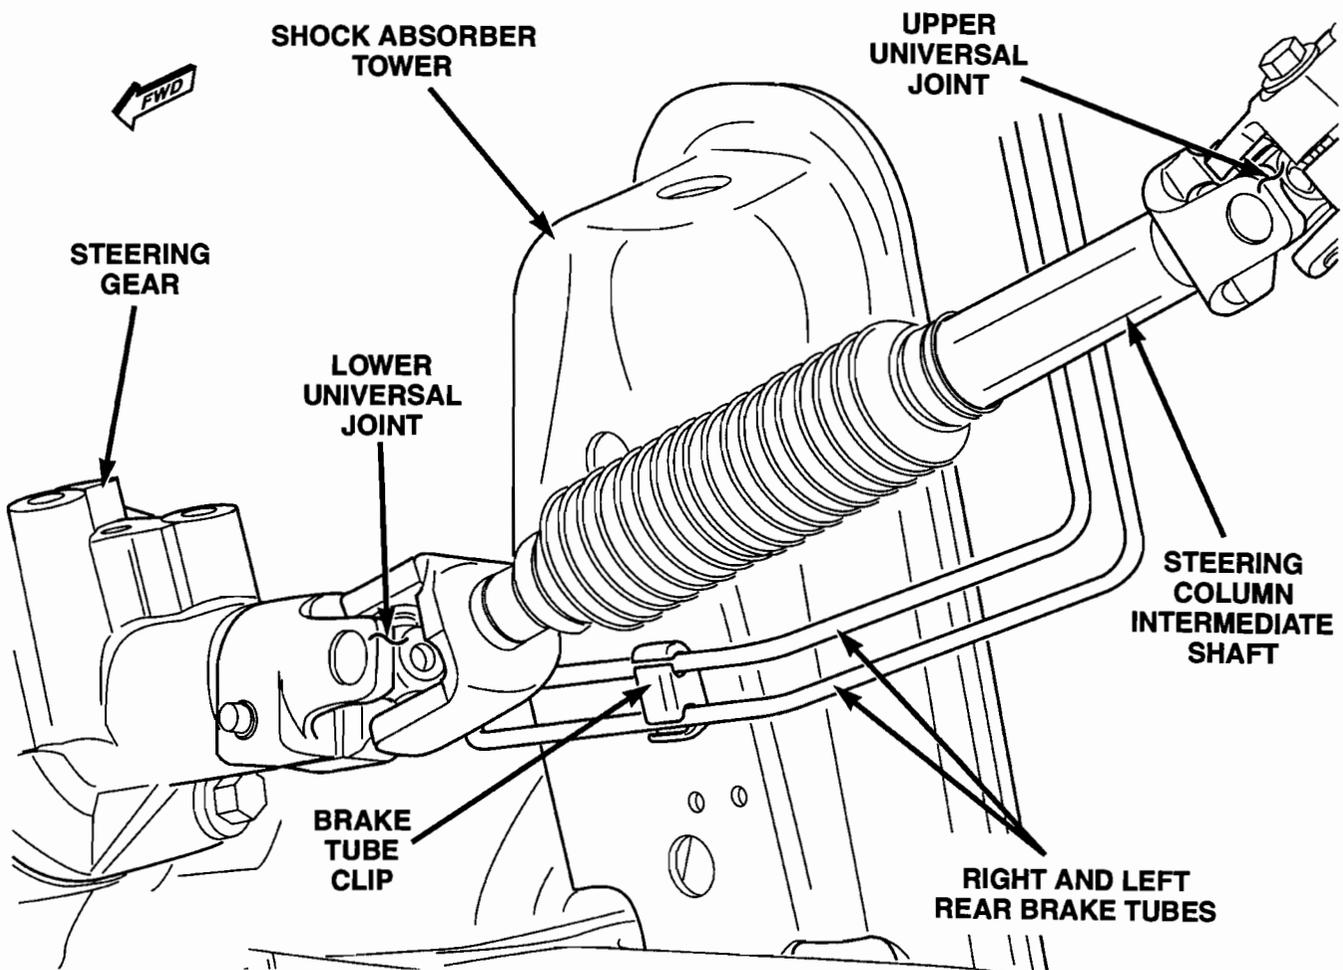

**Figure 6**
- b. Attach one end of bleed hose to bleed screw on the rear brake caliper and insert opposite end in a clear container partially filled with brake fluid (Figure 6). Be sure that the end of bleed hose is fully immersed in brake fluid.